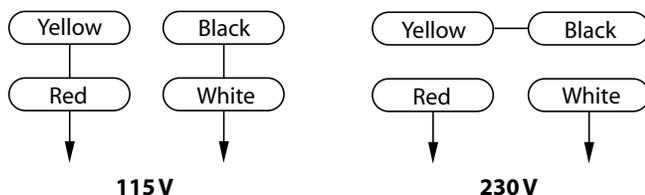

Figure 4 – Wiring Diagram
- Motor and wires are installed as shown in wiring diagram (See Figure 4). Motor is assembled with approved, 3-conductor cord to be used at 115/230 volts. Motor is prewired at the factory for 115 volts.